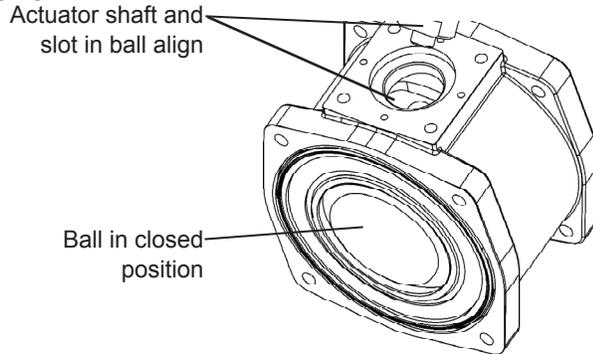

Figure 12
3. Hold the actuator assembly above valve body assembly and align the actuator shaft with the slot in the ball as shown in Figure 12 for desired gear position on valve body as shown in Figure 13.
4. Push the actuator assembly down against valve body assembly and rotate the actuator assembly in both directions slightly while pushing assembly against valve body until actuator drops into slot in valve ball as shown in Figure 12. There should be no gap between the actuator assembly and the valve body as shown below.